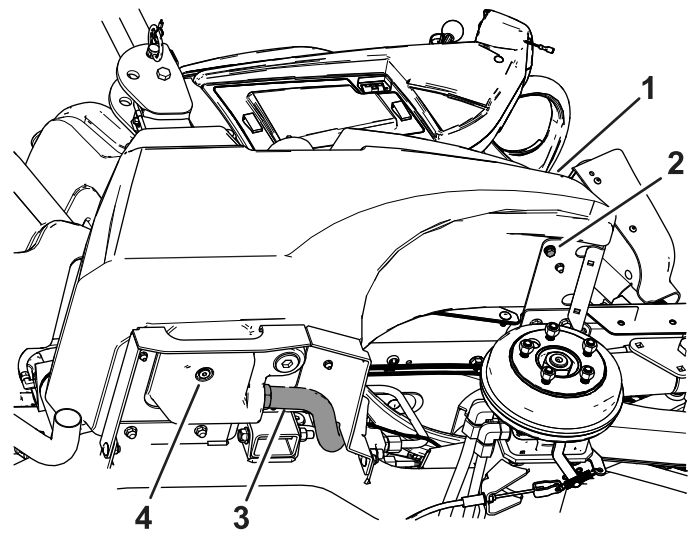

Figure 7
2. Install the bottom bolt, hose clamp, and hose shown in Figure 7.